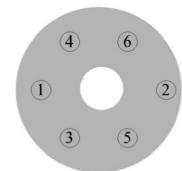

Figure 1
- M2. Re-install the gas valve/fan/burner plate assembly using the six -10mm nuts torqued to 3.69 ft. lbs. (44.25 in.lbs.) following the torque pattern shown in Figure 1. Start and end with #1.